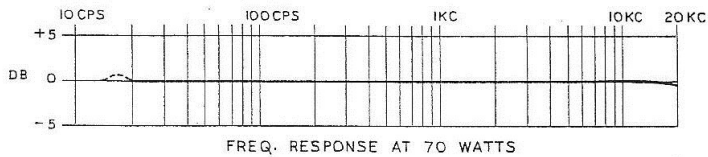
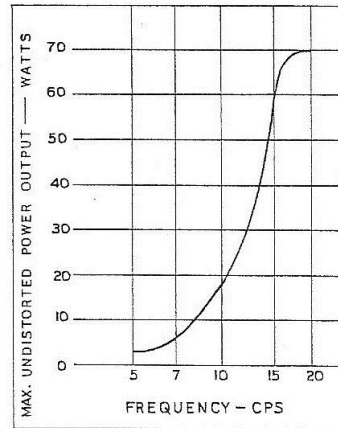

Figure 2
Figure 3
**POWER RESPONSE:**.....  $\pm 0.25$  db from 20 to 20,000 cycles. See Figure 2. In any amplifier, the output transformer places a limit on the undistorted power output available at very low frequencies. No equipment was available to measure harmonic distortion below 20 cycles; however, the graph of Figure 3, based on oscilloscope observations, shows power levels the W-6M amplifier will deliver at low distortion (essentially a pure sine wave) at frequencies between 5 and 20 cycles.